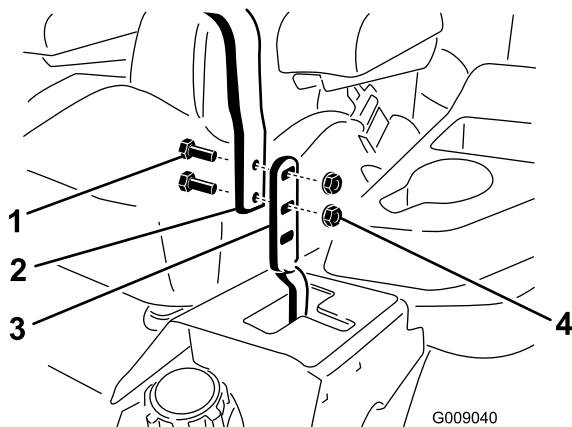

Figure 57
3. Loosen the bolts and flange nuts installed in the levers (Figure 57).